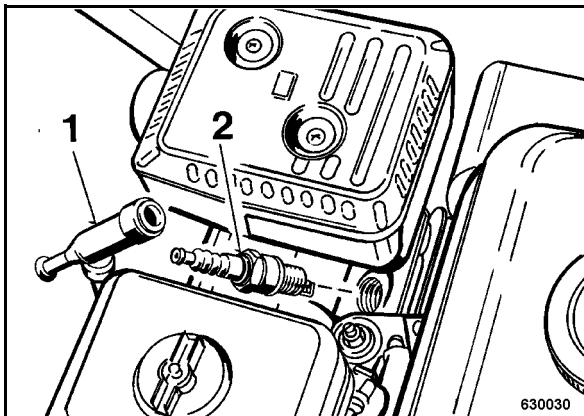

Fig. 43
- Pull off the spark plug socket (1) (Fig. 43) and unscrew the spark plug (2).